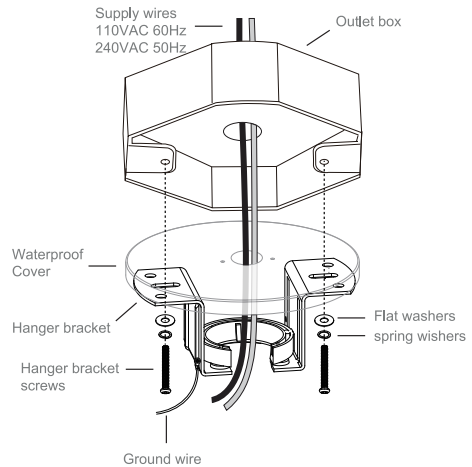

Fig.5
Step 1. Pass the supply wires through the waterproof cover and ceiling hanger bracket as shown in Fig.5.
Step 2. Secure the waterproof cover and hanger bracket to the ceiling outlet box with the screws and washers included with mounting hardware. (Fig.5)